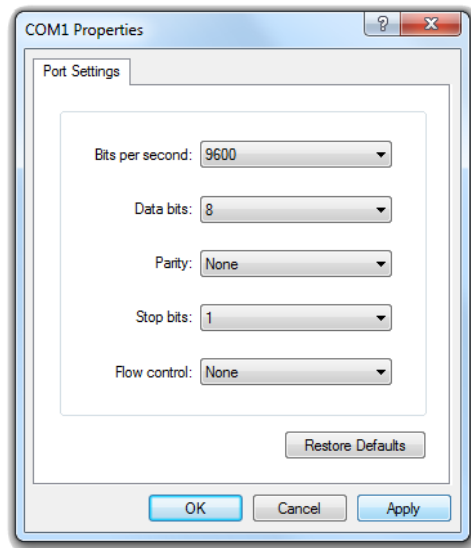

Figure 9: Connection Properties.
5. In the port property sheet that appears, choose a port speed. (bits per second) For the AOC lasers please use Baud Rate = 9600, Data Bits = 8, Parity = None, Stop Bit = 1 and Flow Control = None. Please see Figure 9.